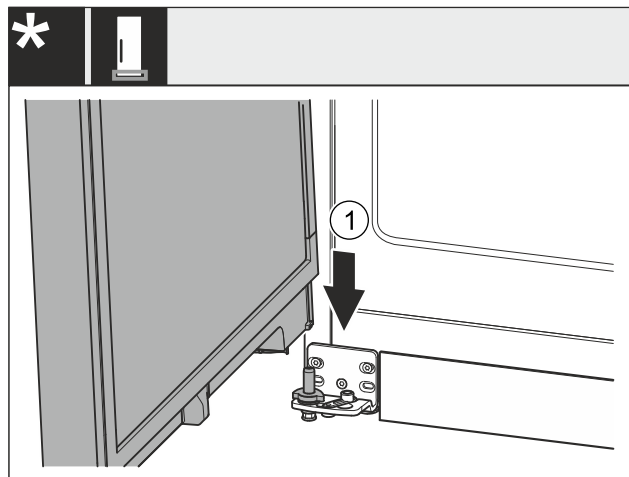

Fig. 43 \*
- ▶ Lower the door onto the bottom bearing bolt Fig. 43 (1).\*